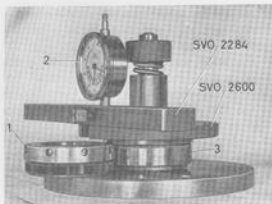

Fig. 4-171. Determining shim thickness
3. Place the complete rear pinion bearing with the outer ring in measuring fixture 2600. Put on the plate, spring and nut. Turn the nut with the flat side facing upwards. The plate, and thereby the bearing, is turned forwards and backwards several times so that the rollers take up the correct position. Place the adjusting ring in the measuring fixture as shown in Fig. 4-171. Use retainer 2284 and dial indicator and place the measuring point of the indicator opposite the adjusting ring and zero-set the indicator. Then set the pointer of the indicator to the outer ring of the bearing. The dial indicator now shows at once the thickness the shims should have. Measure shims for the correct thickness with a micrometer, see Fig. 4-172. NOTE: It is almost impossible to obtain a shim with exactly the correct thickness. However, they must not be 0.03 mm (0.0012") thicker than the measured value, but up to 0.05 mm (0.002") thinner.
- When the correct backlash and contact pattern are obtained, remove the differential and adjusting ring. Then place the center washer on the measuring fixture. Fit a bearing into the measuring fixture, likewise the plate, spring and nut. Fit the nut, with the flat side facing downwards. Rotate the plate forwards and backwards several times. Put on the dial indicator and retainer 2284. Zero-set the indicator to the adjusting ring and then place the measuring point facing the bearing, see Fig. 4-171. Read off the indicator. With a micrometer measure the shims, the total thickness of which corresponds to the read-off value + 0.07 mm (0.003"). Place the shims together with the measured bearing to the one side. Repeat the above procedure with the other bearing.